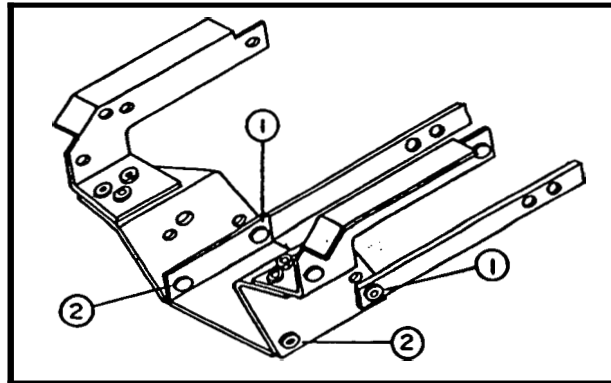

FIGURE 9
- i) Tighten the 1/2" bolts (fig.9, item 1). Refer to the **Torque Specification Table** on page 11.